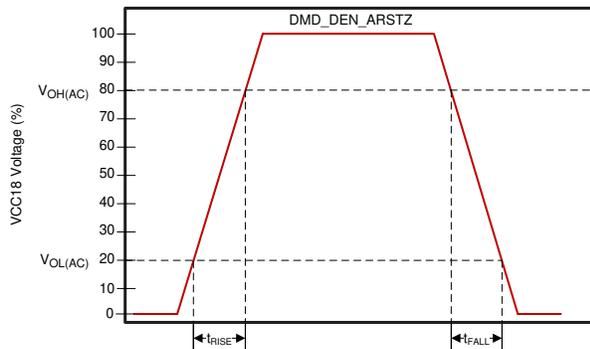
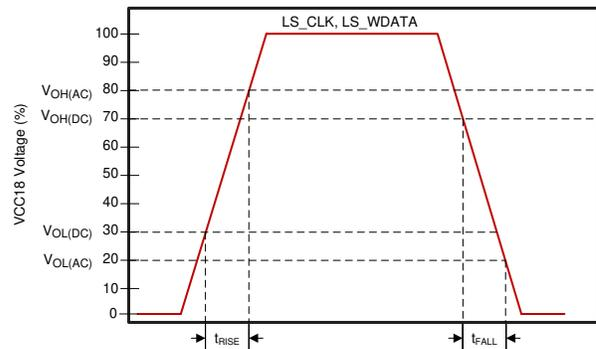

图 6-3. DMD_DEN_ARSTZ Slew Rate
图 6-4. LS_CLK and LS_WDATA Slew Rate
- (1) $V_{OH(AC)}$ maximum applies to overshoot. When the DMD_LS_WDATA and DMD_LS_CLK lines include a proper 43- Ω series termination resistor, the DMD operates within the LPSDR input AC specifications.
- (2) $V_{OL(AC)}$ minimum applies to undershoot. When the DMD_LS_WDATA and DMD_LS_CLK lines include a proper 43- Ω series termination resistor, the DMD operates within the LPSDR input AC specifications.
- (3) See Figure 6-4 for DMD_LS_CLK, and DMD_LS_WDATA rise and fall times. See Figure 6-3 for DMD_DEN_ARSTZ rise and fall times.